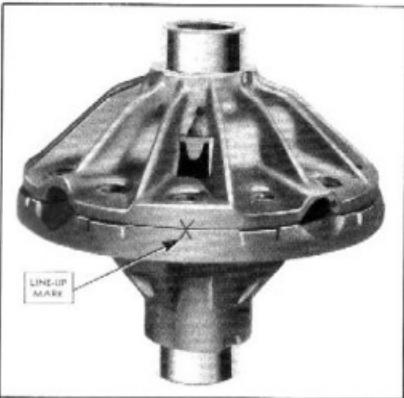

Fig. 26—Differential Case Marks
To disassemble the differential, check and make sure the case halves are marked (Fig. 26) so it may be assembled in the same position. Remove the twelve $\frac{1}{4}$ " bolts from the case. Lift off the case cover and remove the differential gears and pinions.
2. Assemble the right side of the case to the left side, being sure to line up the marks on the case halves, Fig. 26.